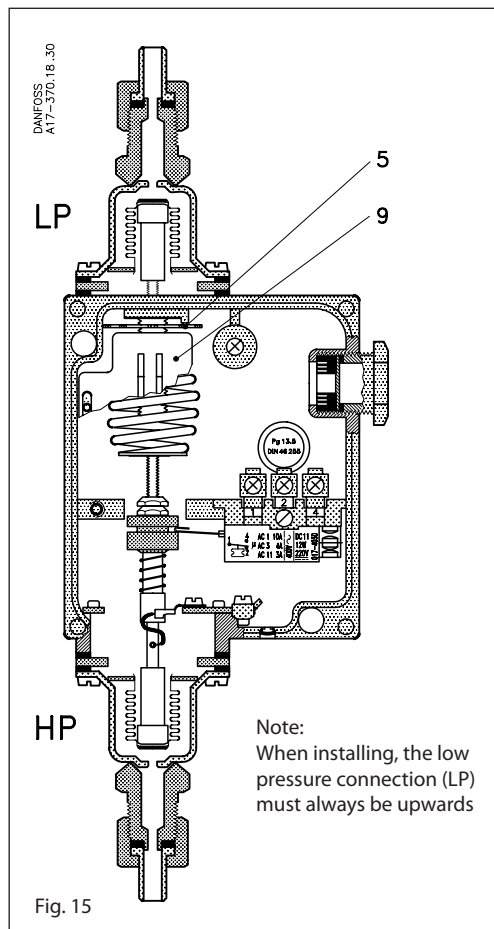

Fig. 15
The speed of a circulation pump must be controlled to give a constant differential pressure of 10 m wg in a heating plant. The static plant pressure is 4 bar. The choice is an RT 262AL. The differential disc (5) fig. 15 page 11, must be set at 1 bar (10 m wg) minus the fixed differential of 0.1 bar, i.e. 0.9 bar. The neutral zone disc is factory-set (marked in red).